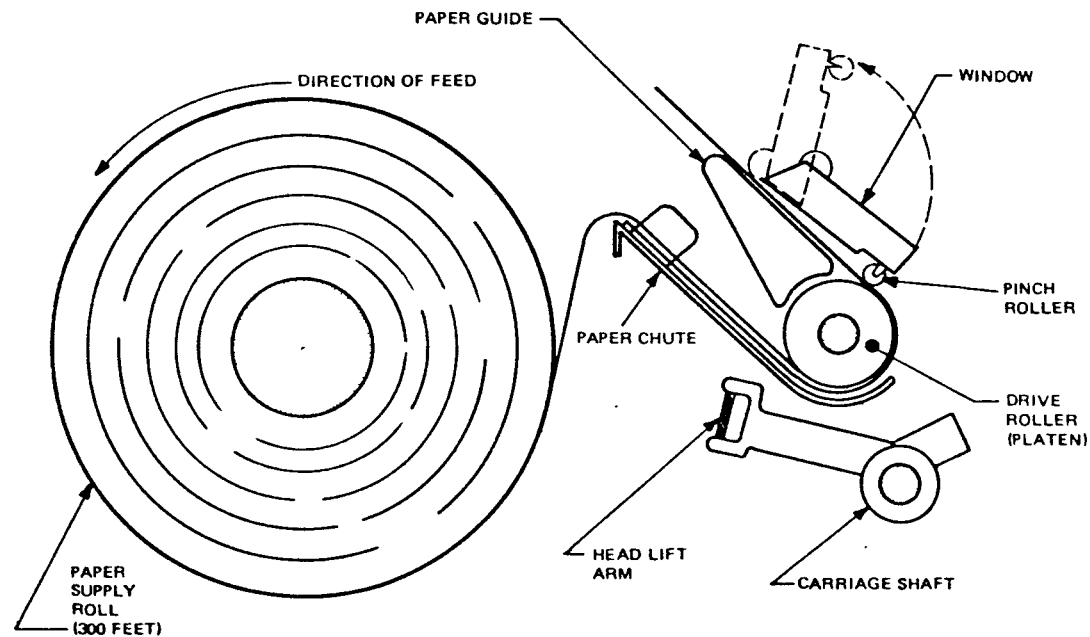

FIGURE 2-5.1. PAPER LOADING
- a. Raise the terminal cover and lift the window/pinch roller (see Figure 2-5.1).
- c. Thread paper between the paper chute and the drive roller as shown in Figure 2-5.1. Be sure paper is centered in the paper chute.